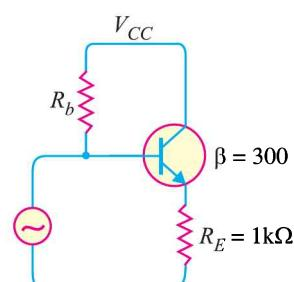

Fig. 13.31
7. In Fig. 13.31, if input and output impedances without feedback are  $2 \text{ M}\Omega$  and  $500 \Omega$  respectively, find their values after negative voltage feedback. [302M $\Omega$ ; 1.6 $\Omega$ ]